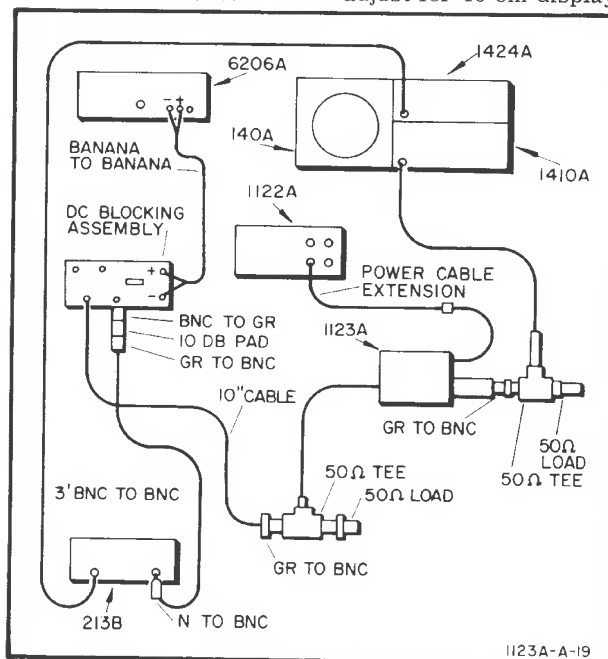

Figure 5-4. Pulse Compression Test Set-up
- Connect the equipment as shown in Figure 5-4.